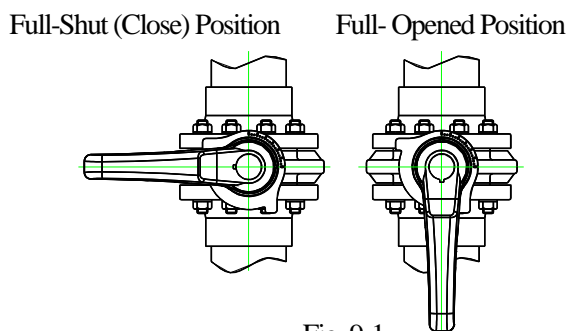

Fig. 9-1
- 2) In case of lever type (40-200 mm { 1 1/2''-8''}), the direction of handle is same as the disc as shown in Fig. 9-1.